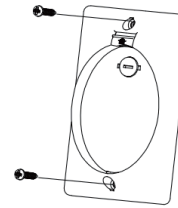

Fig. 22
Step 1. Select a location to install your handset control holder; install the holder as shown. (Fig. 22)